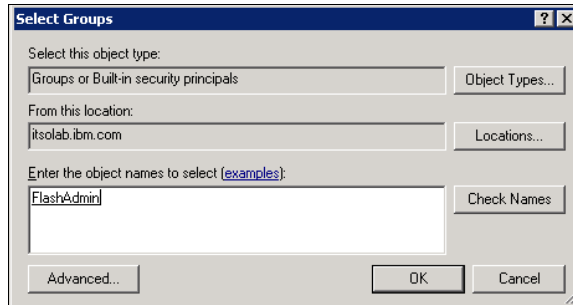

Figure 9-39 Active Directory Select Groups window to add users to the FlashAdmin group
- In the Select Groups window (Figure 9-39), type FlashAdmin and click **Check Names**.